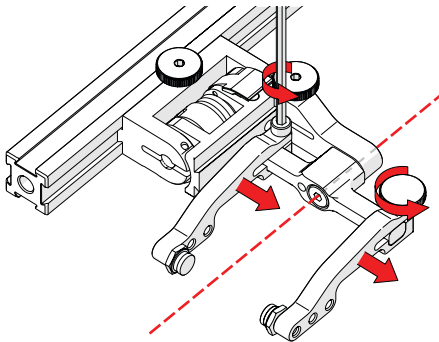

Fig. 32 - Adjust probe holder arms
5. Loosen the probe holder arm adjustment knob (Fig. 32) and remove outer probe holder arm from yoke.
6. Adjust inner probe holder arm as required to best centre the probe on the yoke's pivot axis (Fig. 32).
**TIP:** The probe holder yoke can accommodate many different probe and wedge sizes of varying widths. It is best to centre the wedge with the yoke's pivot axis to reduce wedge tipping when scanning. Position the inner probe holder arm accordingly with the centre of the yoke (Fig. 32).